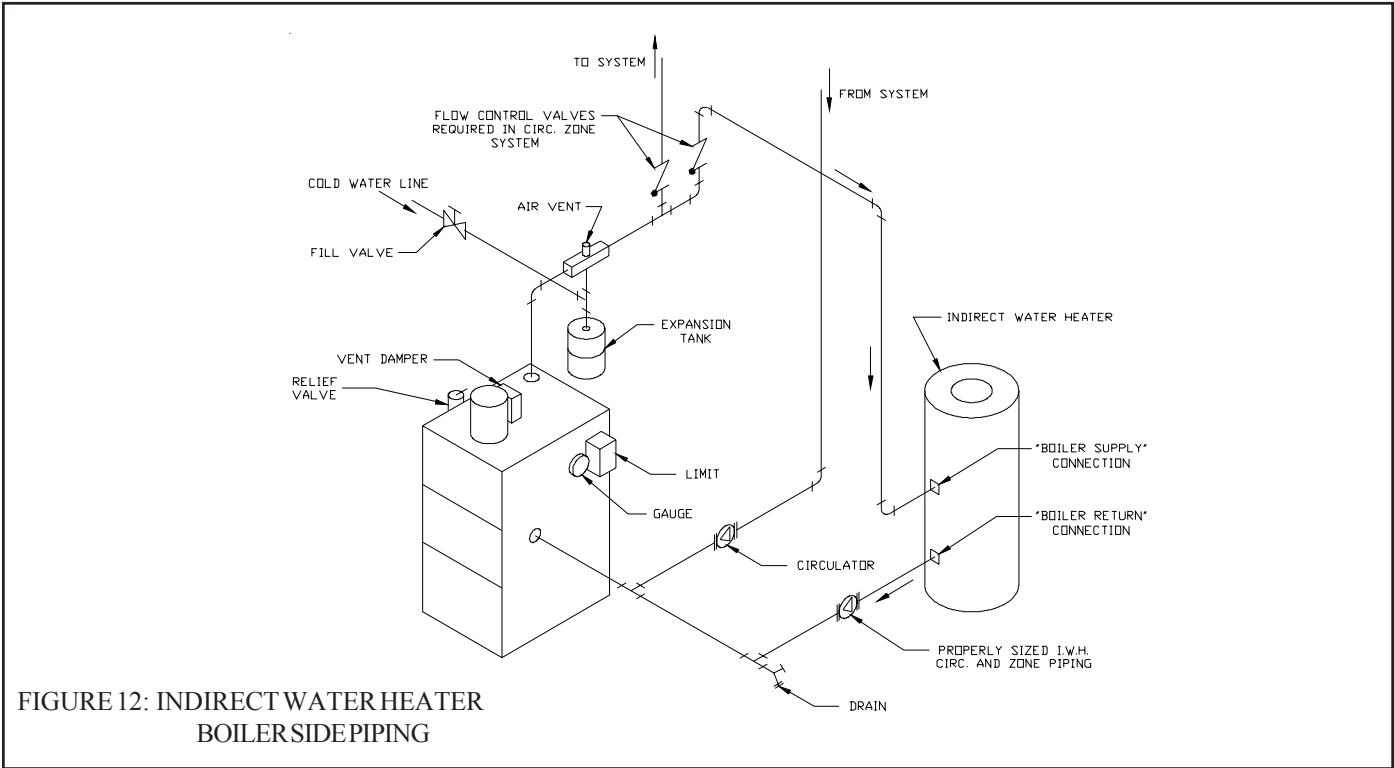

FIGURE 12: INDIRECT WATER HEATER BOILERSIDE PIPING
- 1) Indirect Water Heaters - Figure 12 shows typical indirect water heater piping. Boiler piping is the same as for any two-zone system. Figure 12 shows circulator zoning, which is usually preferred for indirect water heaters. Size the circulator and indirect water heater piping to obtain the boiler water flow through the indirect water heater called for by the indirect water heater manufacturer.